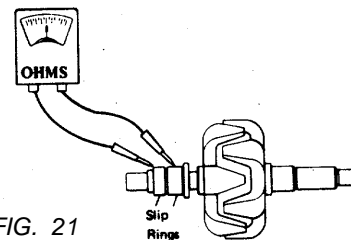

FIG. 21
2. Check rotor coil resistance by connecting the ohmmeter across the two slip rings (see Fig. 21). The resistance of the rotor should be within the following limits: